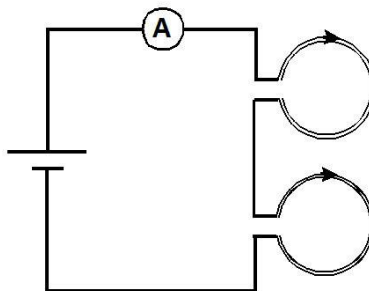

Figure 5
2. Connect the second coil in series with the first coil, pay close attention to the direction of the current, as shown in the Fig. 5.